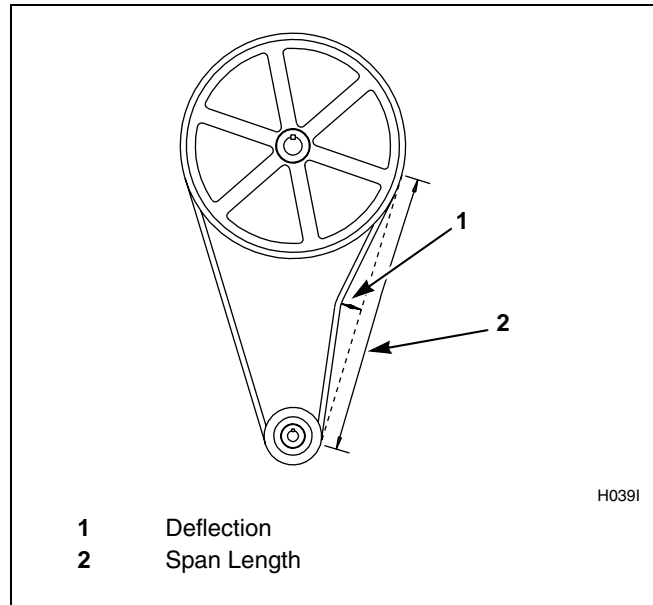

Figure 10
- c. Verify that V-belts are properly tensioned by applying a set force to the belt and measuring the deflection to determine the belt tension. Refer to *Table 2* for the acceptable belt tension ranges. Belt tension measurements should be taken as close to the center of the belt span as possible. Refer to *Figure 10*.